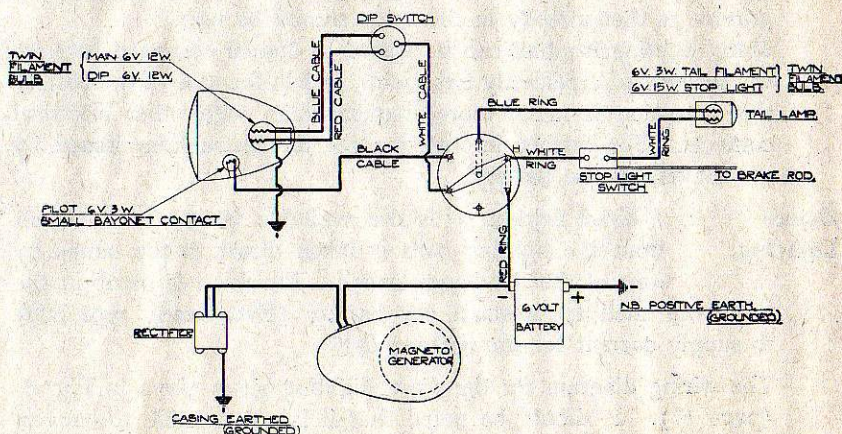

Fig. 5.—Rectifier type lighting set—typical wiring diagram.
**Care of the Rectifier** The wiring connections between the battery and rectifier, and the rectifier and magneto, are given in Fig. 5 (page 15). Note that the **positive** side of the battery is "earthed" to the frame of the motor-cycle. The rectifier itself is hermetically sealed, and can be fitted to any part of the frame of the machine, provided that metal-to-metal contact is made with the outer plate of the rectifier, which is the earth connection of the circuit.